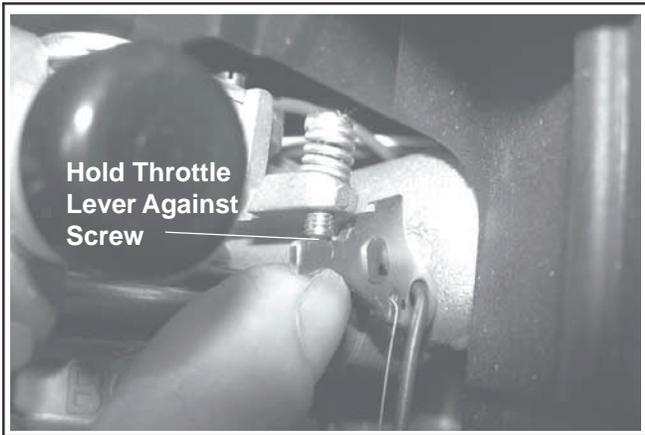

Figure 21. Holding Throttle Lever Against Idle Stop Screw.
2. Move the throttle control to the idle position. Hold the governor lever away from the carburetor, or hold the throttle lever so it is tight against the idle speed adjusting screw, to negate the governor activation. See Figure 21. Check the speed with a tachometer and adjust it to 1500 RPM.